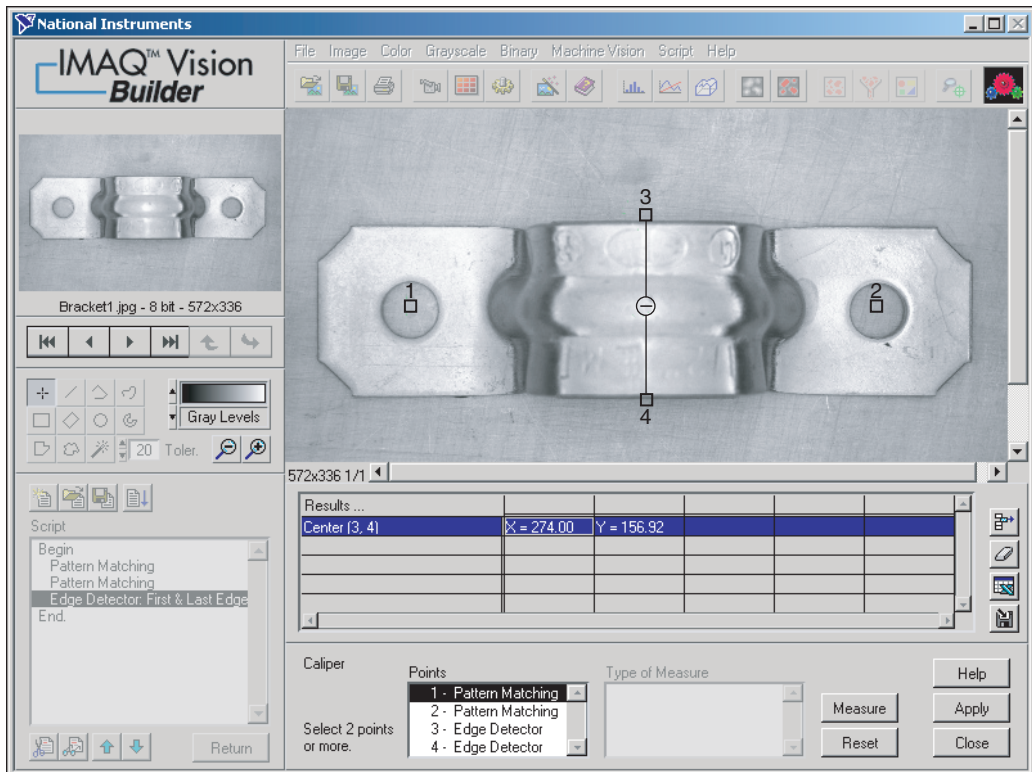

Figure 4-6. Using the Caliper Function to Find Width Center
- Click the **Measure** button to compute the center of the bracket's width and add the Width Center measurement to the results table, as shown in Figure 4-6.